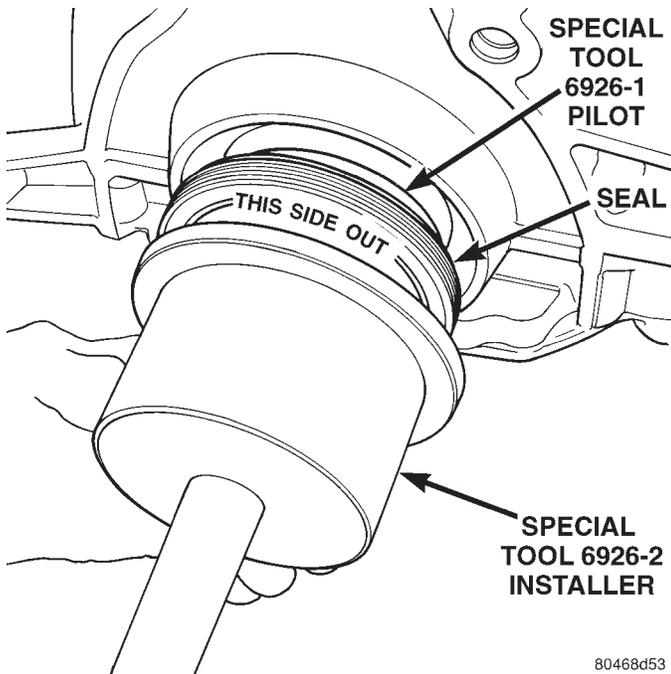
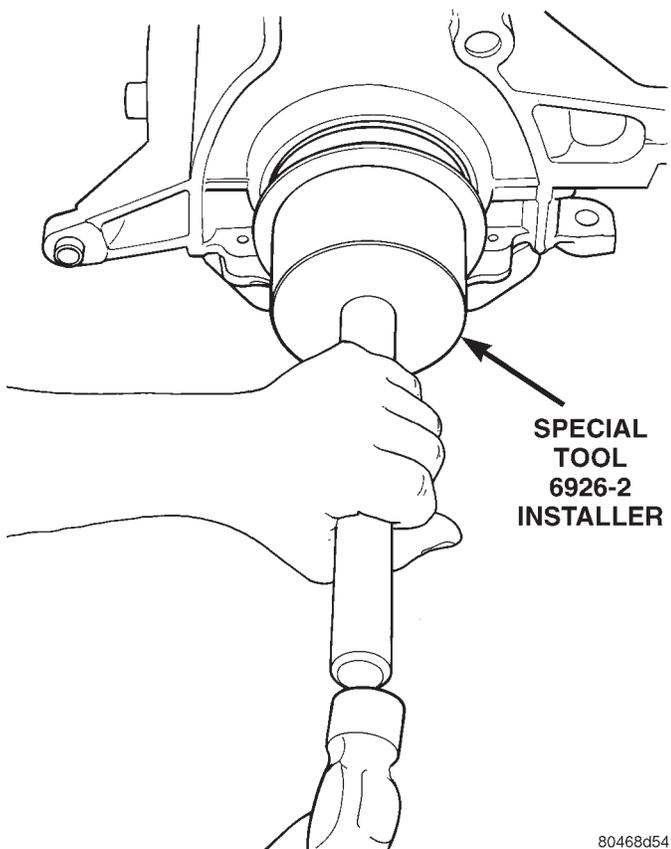

Fig. 61 Crankshaft Seal Special Tool 6926-2
Fig. 62 Rear Crankshaft Seal—Installation
(3) Drive the seal into the block using Special Tool 6926-2 and handle C-4171 (Fig. 61) until the tool bottoms out against the block (Fig. 62).